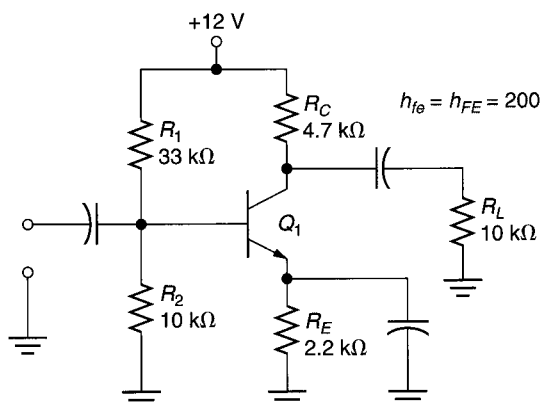

FIGURE 11.6
Determine the output compliance for the amplifier shown in Figure 11.6.
A common-emitter amplifier like the one in Figure 11.6 has the following values:  $V_{CC} = 20 \text{ V}$ ,  $R_1 = 10 \text{ k}\Omega$ ,  $R_2 = 1.8 \text{ k}\Omega$ ,  $R_C = 620 \Omega$ ,  $R_E = 200 \Omega$ ,  $R_L = 1.2 \text{ k}\Omega$ , and  $h_{FE} = 180$ . Determine the compliance (PP) of the amplifier.
**Solution:** In Example 11.1, we determined the compliance of the amplifier to be  $PP = 6.08 \text{ V}$ . With a  $10 \text{ k}\Omega$  load resistance (as shown in Figure 11.6), we can find the maximum value of load power as